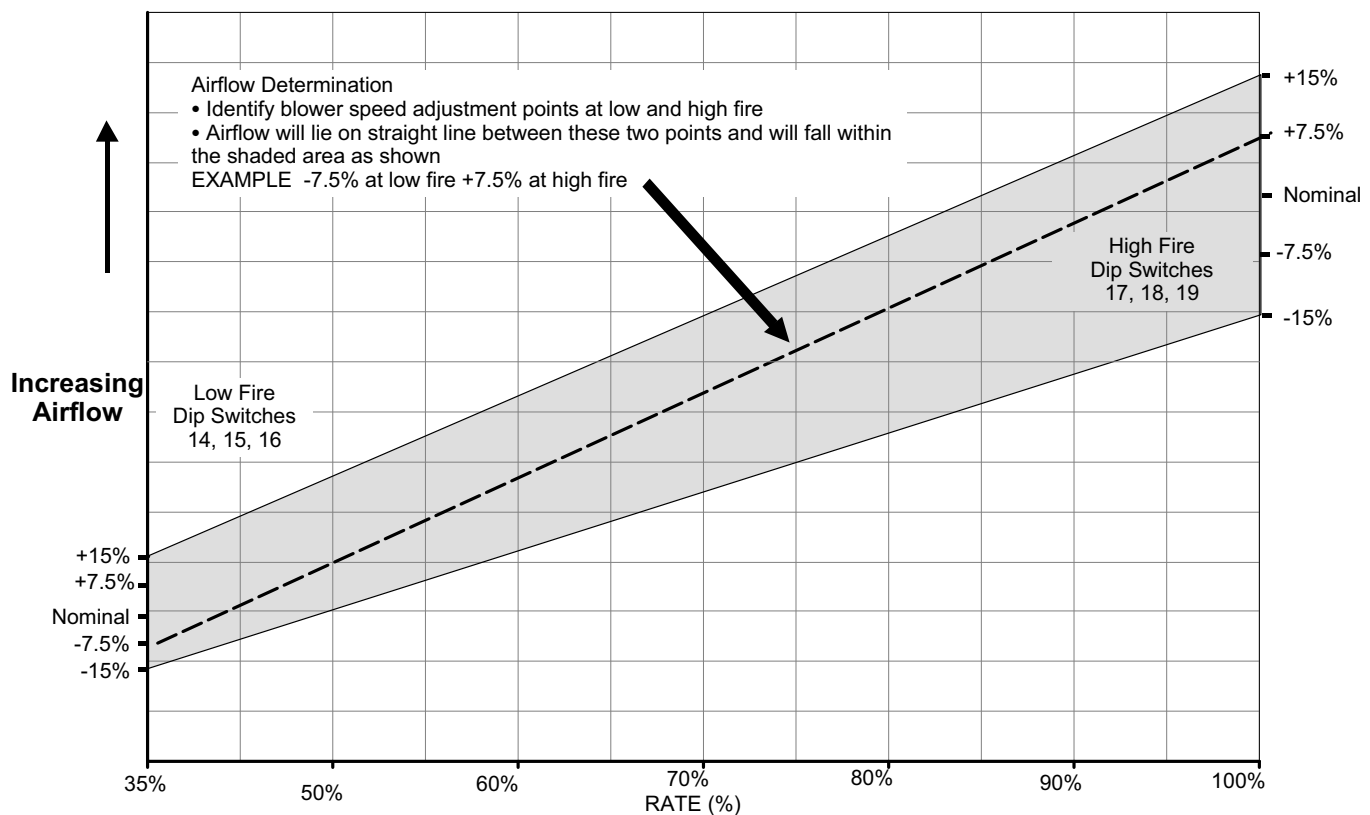

FIGURE 6
-- Switches 14 through 19 are used to select heating mode blower motor speeds. These switches are factory set at the OFF position which provides 100 % of normal speed during HIGH HEAT demand, 70% of normal speed during MID-RANGE HEAT demand and 35% of normal speed during LOW HEAT demand. Switches 14, 15 and 16 are used to adjust the LOW FIRE blower motor speed. Switches 17, 18 and 19 are used to adjust the HIGH FIRE blower motor speed. Figure 6 and tables 9 and 10 provides the heating mode blower speeds that will result from different switch settings. Figure 6 indicates the effect the DIP switch settings (tables 20 & 21 above) have upon the heating airflow at various furnace firing rates.